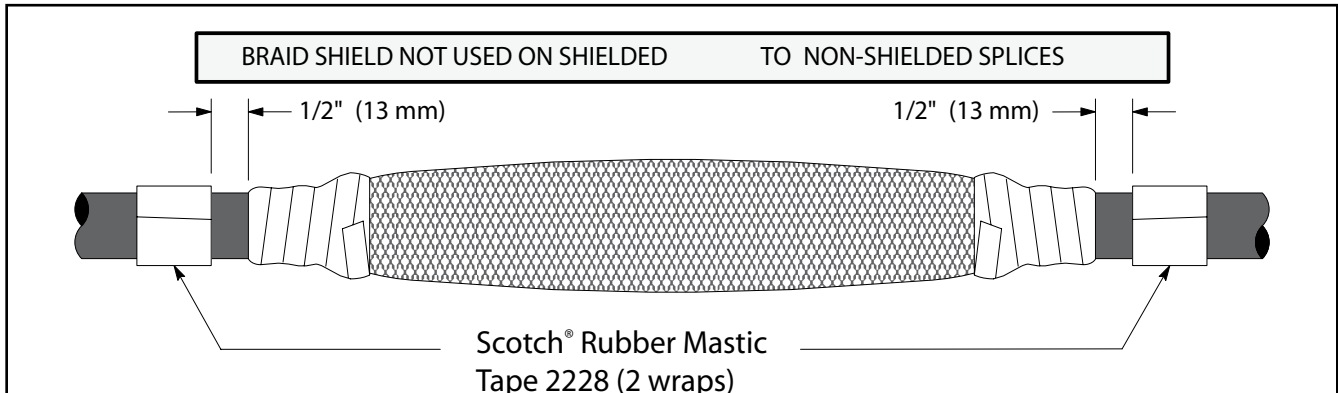

Figure 17
- 9.1 Apply 2 wraps of Scotch® Rubber Tape Mastic 2228 around cable jackets (tacky side toward jacket), 1/2" (13 mm) from jacket ends (*Figure 17*).
- Apply 1 wrap of 2228 rubber mastic around cable jacket, 1/2" (13 mm) from jacket end (*Figure 17*).